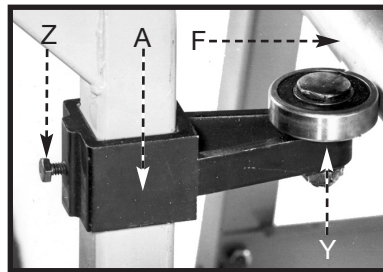

Fig. 34
9. Make sure lower bearing (Y) Fig. 34, contacts lower rail (F) in the center of the rail. If necessary, loosen screw (Z) and move bracket (A) up or down until bearing (Y) contacts rail (F).
**NOTE:** For Old Contractor's Saws, turn bracket (A) Fig. 34 upside down so that the bearing (Y) contacts the rail (F).